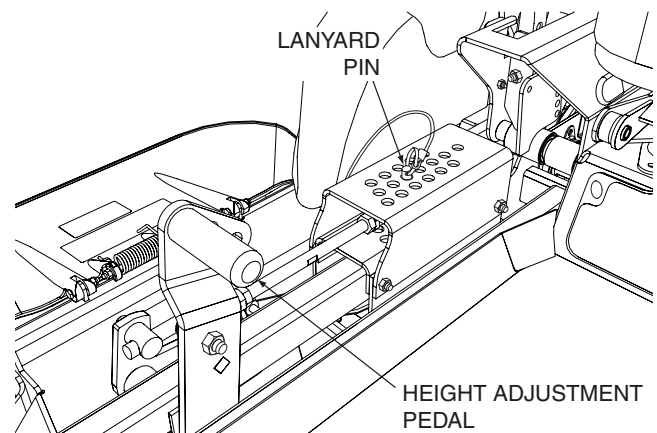

Figure 4-6. Adjusting Cutting Height
- Push the cutting height adjustment foot pedal all the way forward using your right foot until it locks in place. See Figure 4-6.
- Insert the lanyard pin into the cutting height index at the desired cutting height. Push forward on the deck lift foot lever, hold in place and pull back on the deck release lever. See Figure 4-7. Slowly release the foot pedal. A deck height decal is located on the cutting height index as an aid in adjusting the deck to the desired height. See Figure 4-6.